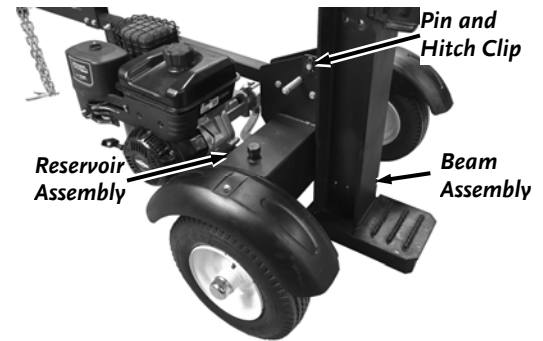

Figure 19
2. Remove the Pin and Hitch Clip from the Beam Support Bracket. Position the Reservoir Assembly so that the Beam Support Bracket is in between the Tabs on the Beam Assembly (**Figure 19**).